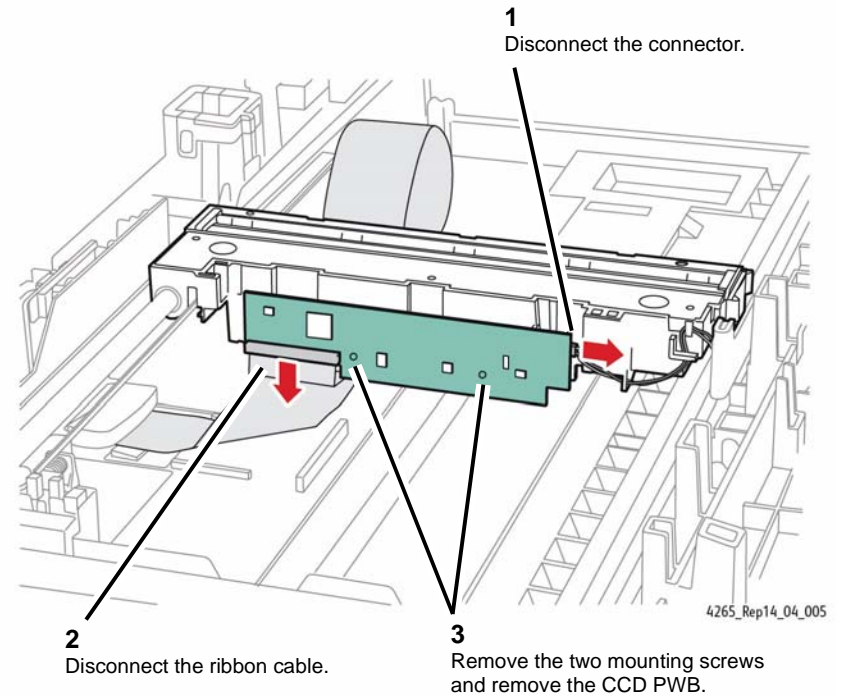

Figure 5 Removing the Scanner CCD Module PWB
8. Remove the scanner drive belt, Figure 5.
8. Remove the Scanner CCD Module PWB (Figure 5).